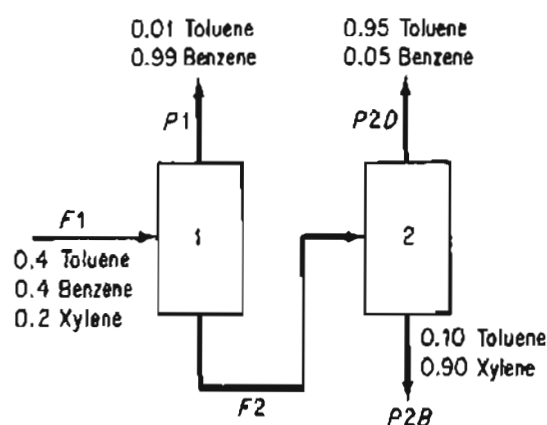

Figure SAT11P1
1. A two-stage separations unit is shown in Figure SAT11P1. Given that the input stream F1 is 1000 lb/hr, calculate the value of F2 and the composition of F2.
2. A simplified process for the production of SO_3 to be used in the manufacture of sulfuric acid is illustrated in Figure SAT11P2. Sulfur is burned with 100% excess air in the burner, but for the reaction $\text{S} + \text{O}_2 \rightarrow \text{SO}_2$, only 90% conversion of the S to SO_2 is achieved in the burner. In the converter, the conversion of SO_2 to SO_3 is 95% complete. Calculate the kg of air required per 100 kg of sulfur burned, and the concentrations of the components in the exit gas from the burner and from the converter in mole fractions.